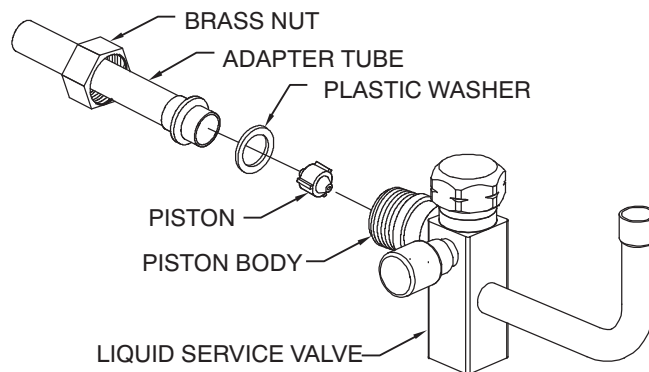

Fig. 3 - Liquid Service Valve
4. Remove Teflon® seal from bag and install on open end of liquid service valve. (See Fig. 3.)